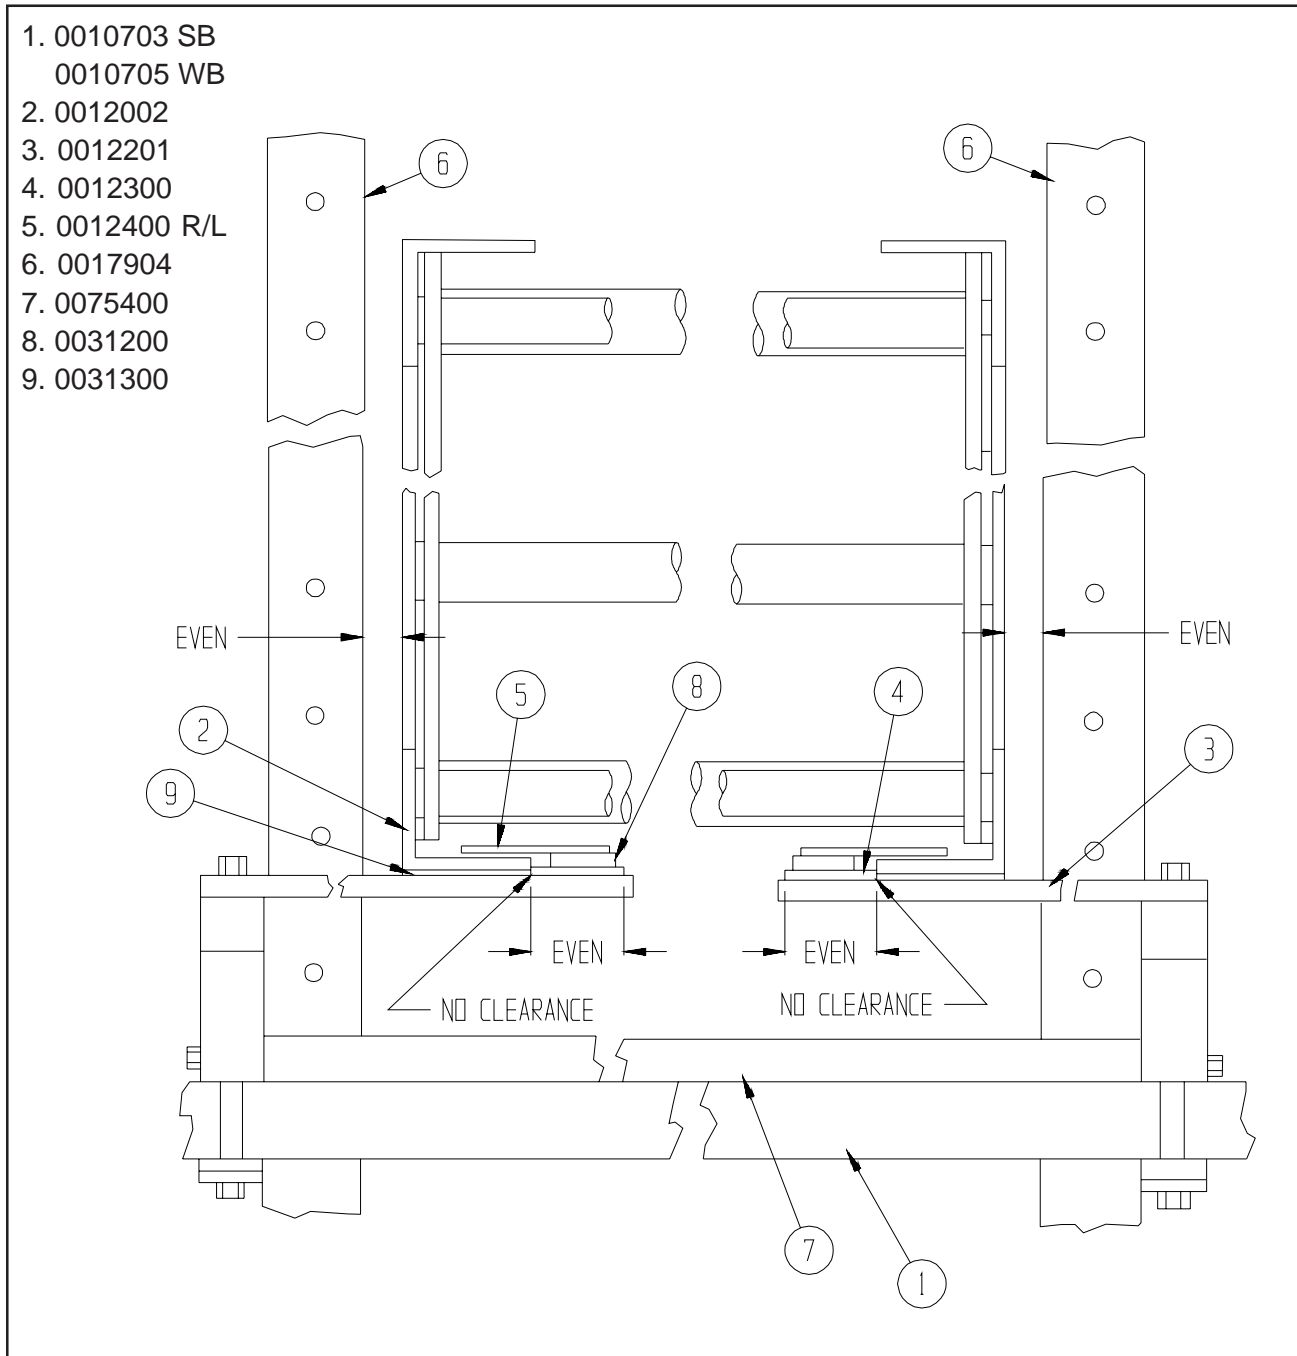
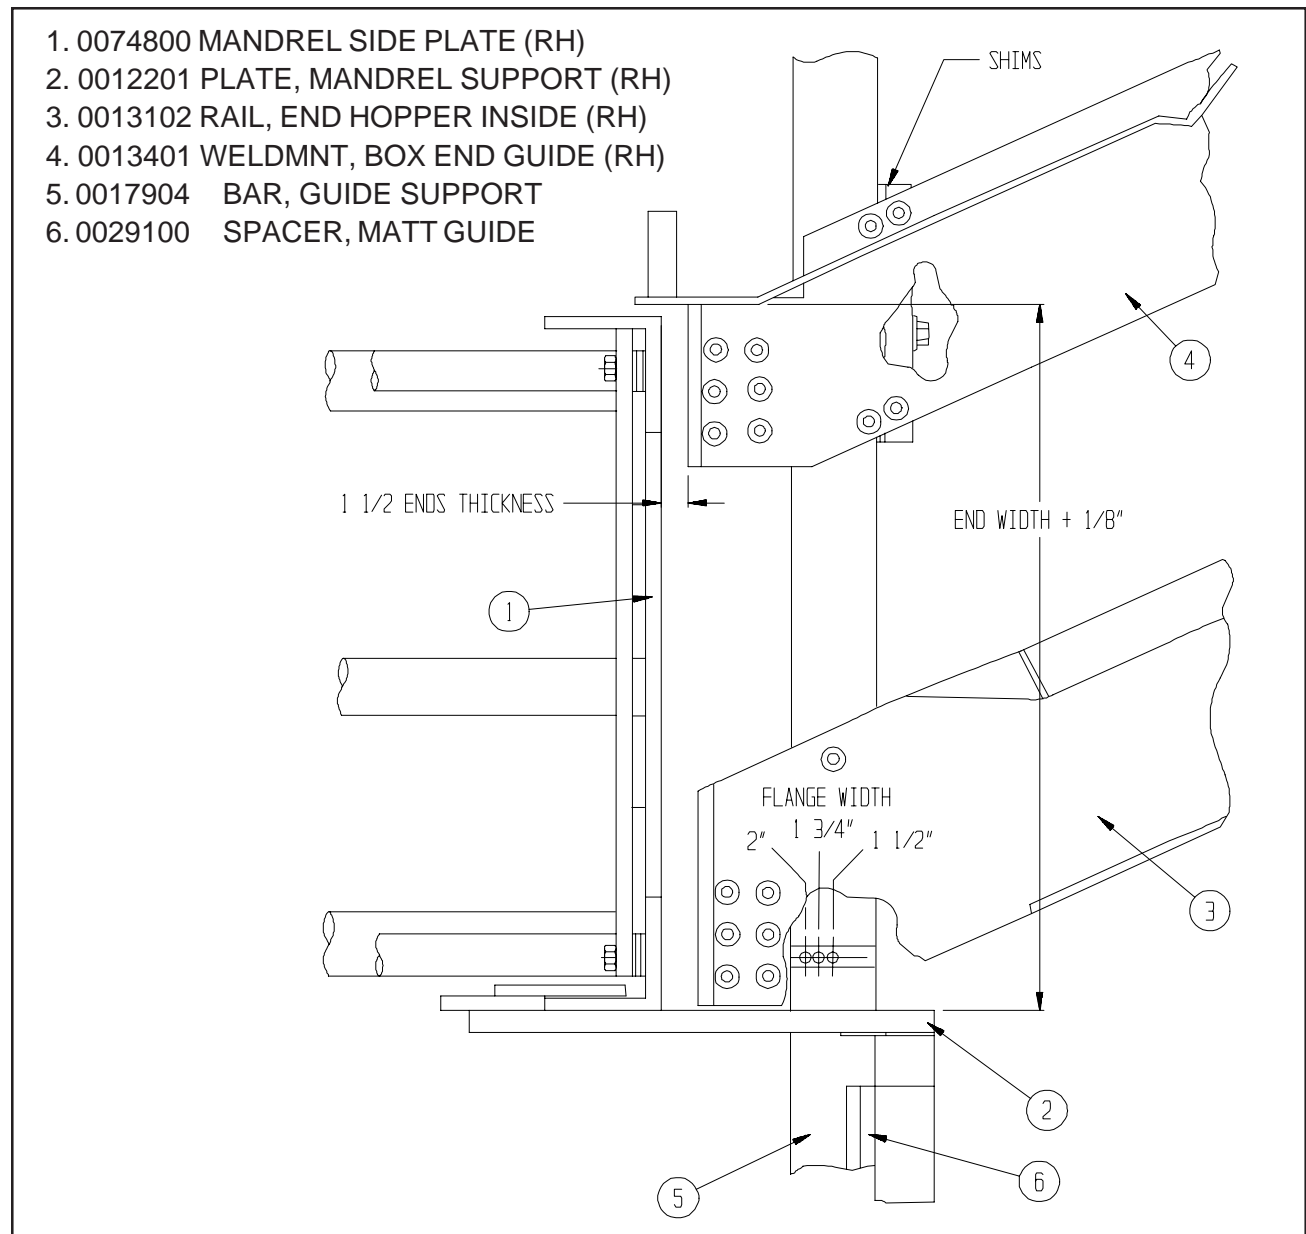

Figure 5-3: Forming Mandrel Installation
Figure 5-8A: End Hopper Adjustment
FIGURE 5-8A
Move the Forming Mandrel to the end of its return stroke. Place a Blank in forming end of Mandrel, and loosen the Bottom Stops using the set screw located in the Set Collar (0100200) on the Quick Change Adjusting Arm (0050200). Slide the stop up or down on the Vertical Guide Bar (0017904) so that the Blank scores are even at the top and bottom of the Mandrel. The Vertical Guide Bars (0017904) have one bolt at the top of the machine. To adjust the Vertical Guide Bars, measure the overall width of the Blank and add 1/8 inch; this establishes the distance between the bars. See Figure 5-3. Run a Blank down the Vertical Guide bars to check clearances set.
**Figure 5-8A** - With the Forming Mandrel adjusted properly (Figure 5-3), adjust the Box End Guide (0013401 R/L) up or down using the 1/4 inch pinch bolt until the distance between the hopper blade on the Box End Guide and the Mandrel Support Plate (0012201 R/L) is one End width plus 1/8 inch. Now by use of the 1/16 inch and 1/4 inch shims, as shown, adjust the distance between the hopper end and the Mandrel Rail to 1 1/2 ends thick. The bottom hopper is to be mounted in the correct hole corresponding to the sealing flange width. The spacer adjustment (0029100) is explained in Figure 5-4A, 5-4B and 5-4C.